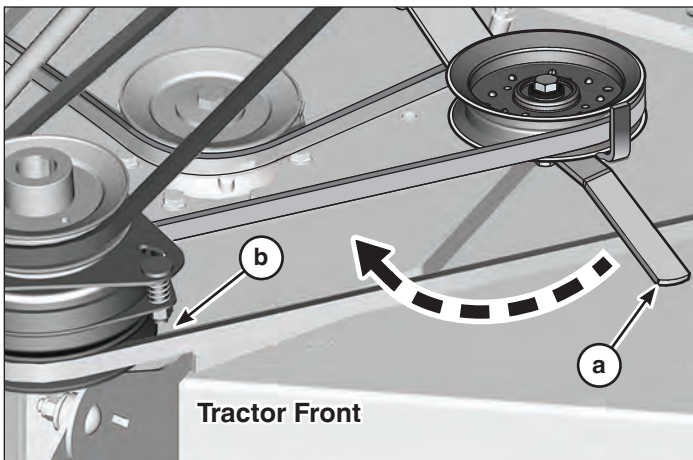

Figure 30
2. On left side of tractor, move idler arm (a, Figure 30) on mower to release belt tension. Remove belt from PTO pulley (b).